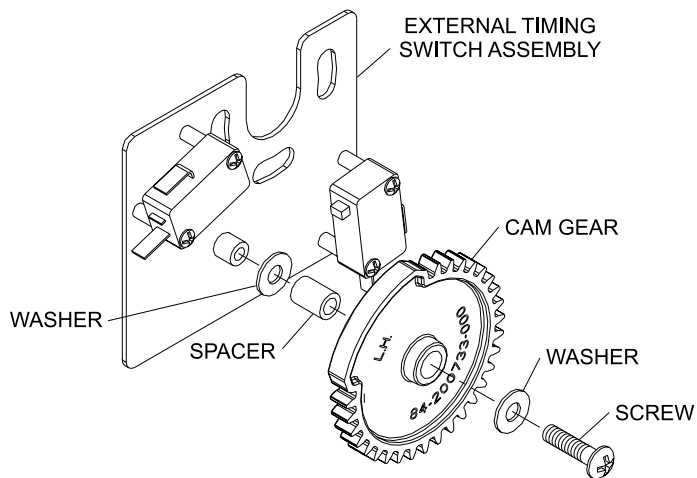
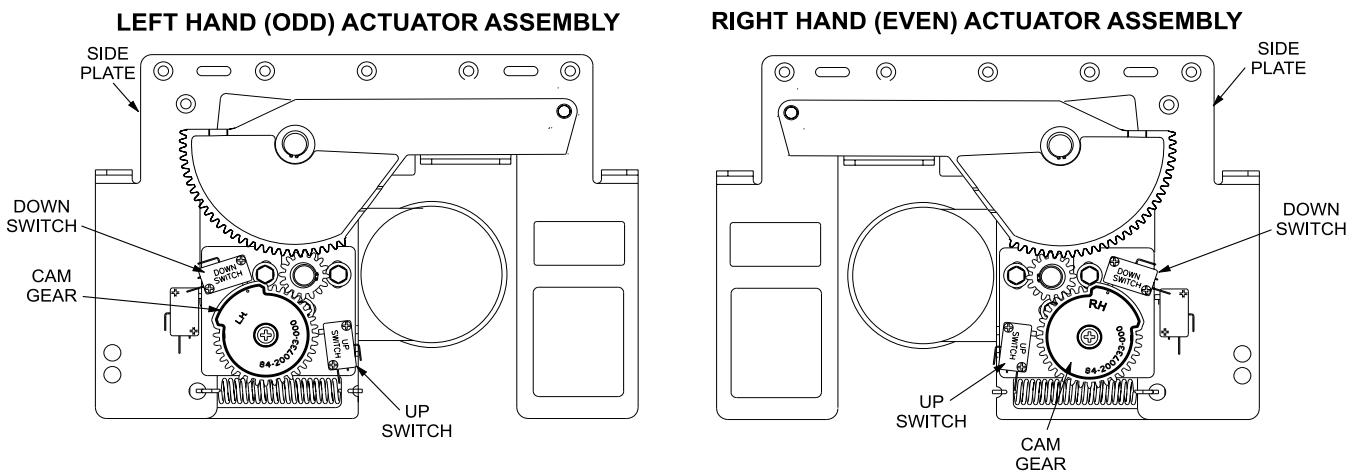

Figure 5
Figure 7
6. Remove the screw, 2 washers, spacer and cam gear from the external timing switch assembly. Refer to *Figure 5*.
- Verify the external timing switch cam (P/N 84-200733-000) is labeled "RH" for the even lane motor and "LH" for the odd lane motor. Refer to *Figure 7*.
- The actuator arm will need to be in the full down horizontal position, Refer to *Figure 7*.
- With the actuator arm in the full down horizontal position, install and align the cam gear with the "Down Switch". Refer to *Figures 7 & 8*. Refer back to *Figure 5* for proper installation sequence of washers and spacer.